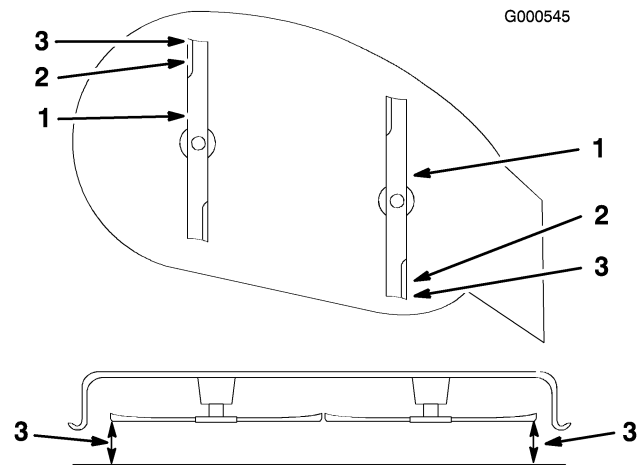

Figure 47
9. Set the height-of-cut at position 3 [3 inch (76 mm)] and carefully rotate the blades so they are facing front to rear (Figure 47).
10. Measure from the tip of the front blade to the flat surface and the tip of the rear blade to the flat surface (Figure 47). If the front blade tip is not 1/16-5/16 inch (1.6-7.9 mm) lower than the rear blade tip, adjust the front locknuts.